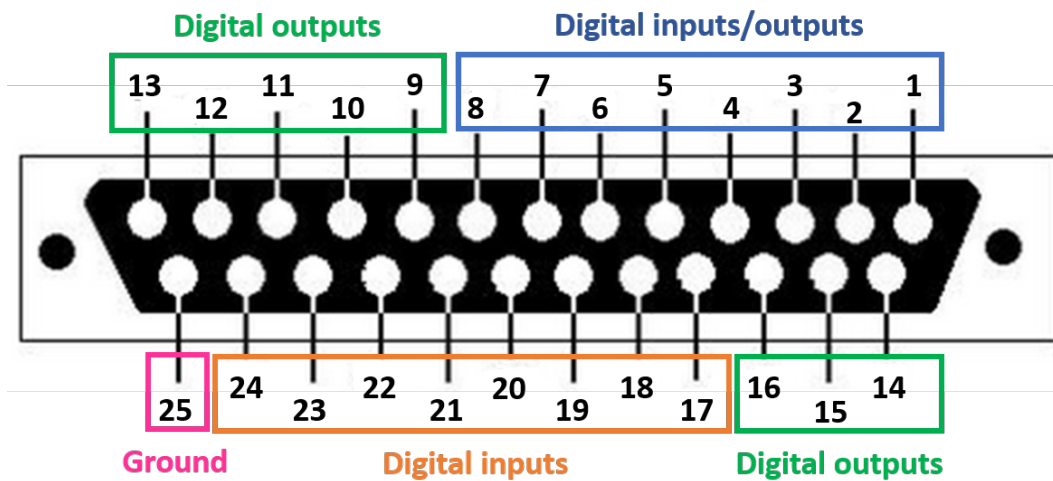

Figure 1.3: DB25 port pinout description
- 1 DB25 port including 8 Digital Inputs/Outputs, 8 Digital Inputs and 8 Digital Outputs (DB25 adapter to wires included). (pinout described in Fig 1.3)